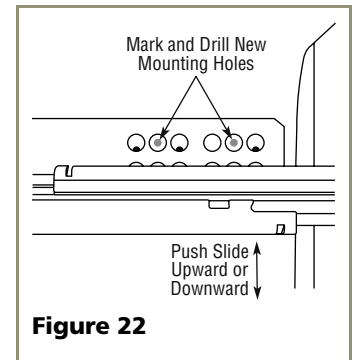

Figure 22
3. Mark new drilling holes using different sets of mounting holes on the slide. See **Figure 22**.